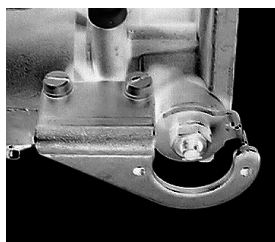

Fig.3
3. Fit the throttle position sensor (TPS) mounting bracket in position and secure with two M5 mounting screws, Fig.3.